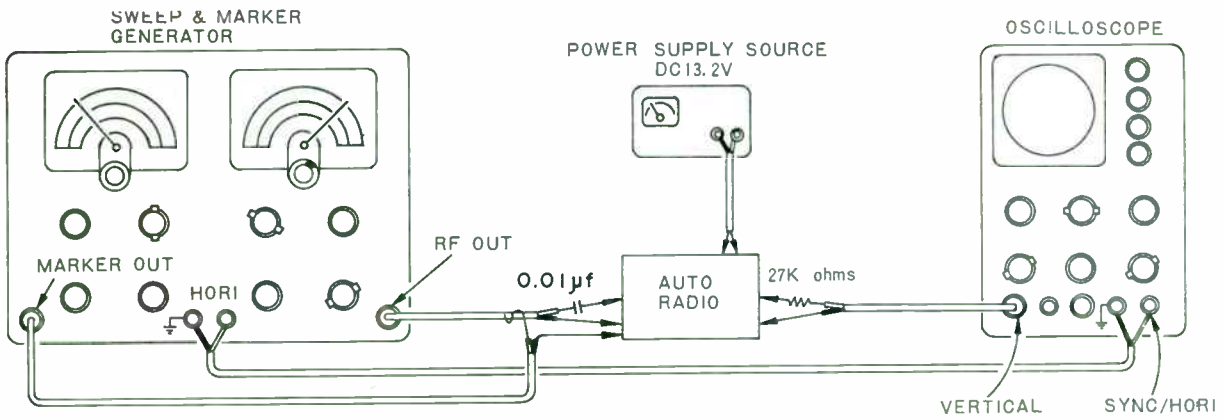

Fig. 6
(1) Preparations for alignment
- a. Connections (Refer to Fig. 6)